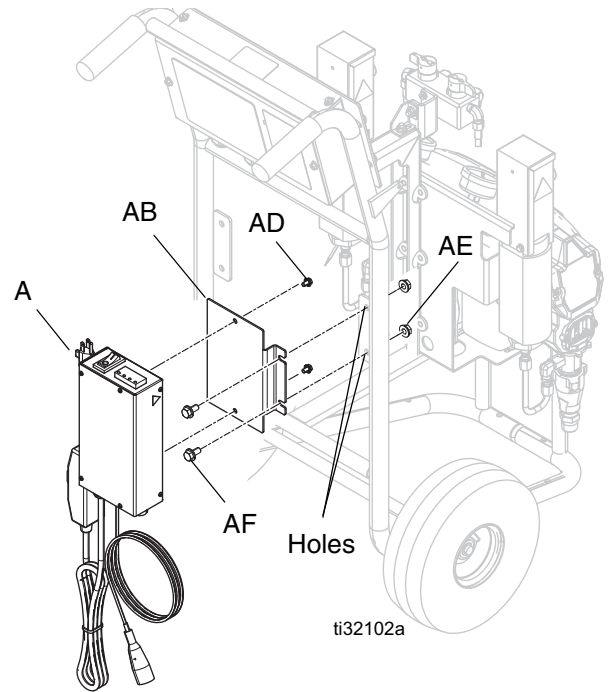

FIG. 11: Mount Control Module on E-10 OEM
2. Attach adapter bracket (AB) to the control box (A). Torque fasteners (AD) to 150 in-lbs (17 N•m).
3. **E-10 and E-10hp:** Loosen nuts (AE) to create a 1/8 in. (3.2 mm) gap. Do not remove nuts.
E-10 OEM: Using the supplied fasteners (AF) and nuts (AE), insert fasteners through holes (see FIG. 11). Begin to tighten the nuts until a 1/8 in. (3.2 mm) gap is left between the nuts and the cart frame.
4. Install the control module (A) by inserting the bracket (AB) into the gap between the nuts and the cart frame.
5. Tighten the nuts (AE) to secure the control module to the proportioner frame. Torque nuts to 150 in-lbs (17 N•m).